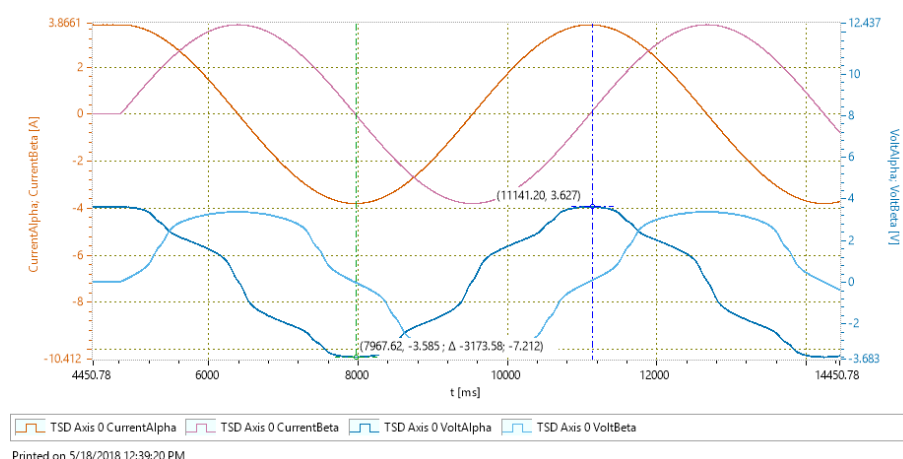

Figure 4: Measurement used to evaluate the resistance. $R = 3.6V/3.8A = 0.85\Omega$.
2. Run the motor with low velocity in synchronous mode and measure the signals for at least one electrical turn. The velocity should be low enough so that the voltage and current are in phase (see Figure 4).
3. Measure the ratio between VoltageAlpha and CurrentAlpha or VoltageBeta and CurrentBeta to determine the resistance (Figure 4). And write the result to register `Parameters.CurrentController.R`.